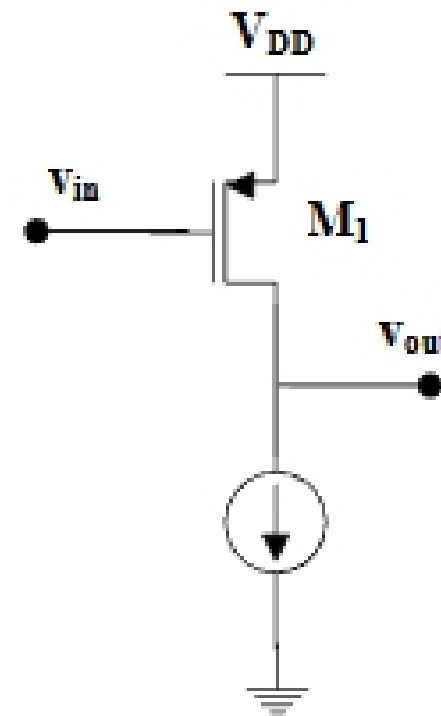

Figure 1. PMOS CS with ideal current source
Figure 1 shows the circuit diagram of a PMOS common-source stage. The voltage gain of such a stage can be shown to equal the following,
Note: In practice, one does not have access to ideal current sources. As a result, the ideal current source depicted in Figure 1 would be implemented using a current mirror in practice. Subsequent to this, the voltage gain expression in (1) would need to be modified. The result is the following